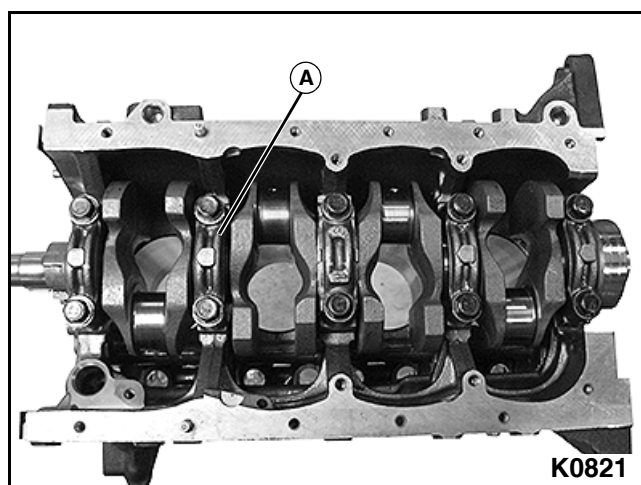

Figure 3-238
2. Coat engine oil on the lower bearing surfaces. Install the bearing caps (A) to the corresponding code positions, with the front marks on the front side. **See Figure 3-238.**
4. Evenly tighten ten bearing cap bolts on the left and right sides in the illustrated order little by little in several steps. **See Figure 3-238.**